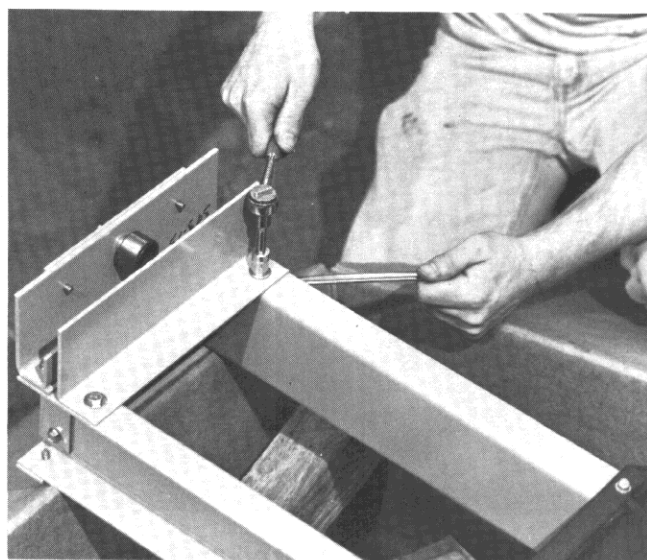

Fig. 4-24. Removal of hoist runner guide
2. Route the control wires from the conduits through the wiring trough (cross-hatched area—2" x 7"—shown on Fig. 4-24) at the side of the cable compartment. Connect the cables to the terminal blocks in accordance with the connection diagrams for the equipment.
Before attempting to install the hoist assembly on the switchgear equipment, it is necessary to remove the runner guide from the hoist carriage as shown in Fig. 4-24. Do not dispose of this guide since it must be reinstalled after mounting the hoist on the equipment.